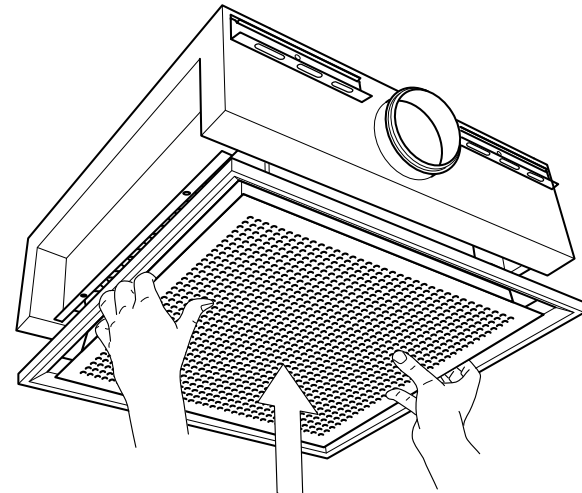

FIGURE 31
- 4) Once vacuuming and cleaning are complete, snap the front panel back into place. (See **FIGURE 31**)